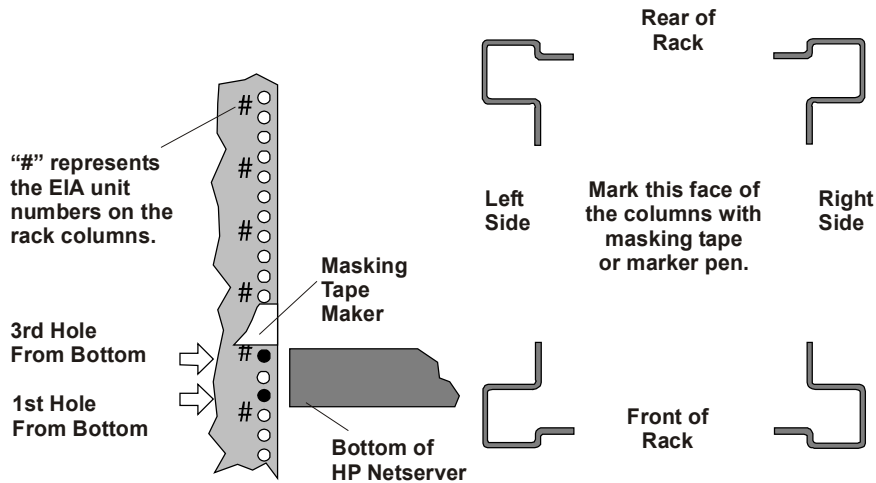

Figure 8-3. Location Marks on the Rack's Columns
- Use the masking tape (or marking pen) to mark above the 3rd hole up on both front columns, as shown in Figure 8-3.
- Mark the inside face of the left-rear and right-rear rack columns as shown in Figure 8-3.
4. Match the outer-rail pins to the column holes (1st & 3rd) marked on the front and rear columns. See Figure 8-3.